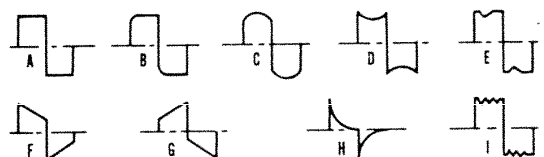

Figure 6. Sample Output Wave Shapes
- Fig. 6. Sample Output Wave Shapes.